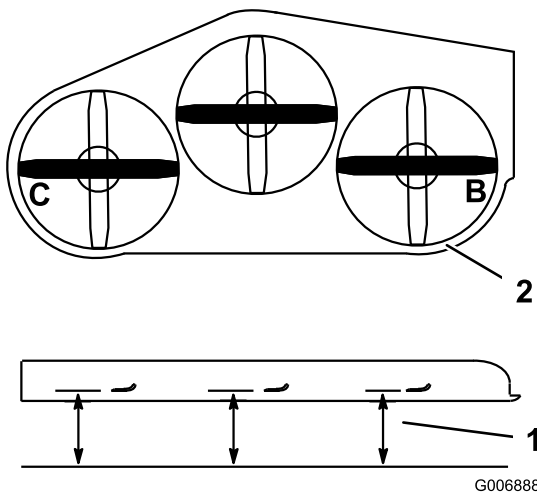

Figure 90
3. Position the blades side-to-side. Measure at **B** and **C** locations from a level surface to the cutting edge of blade tips (Figure 90).